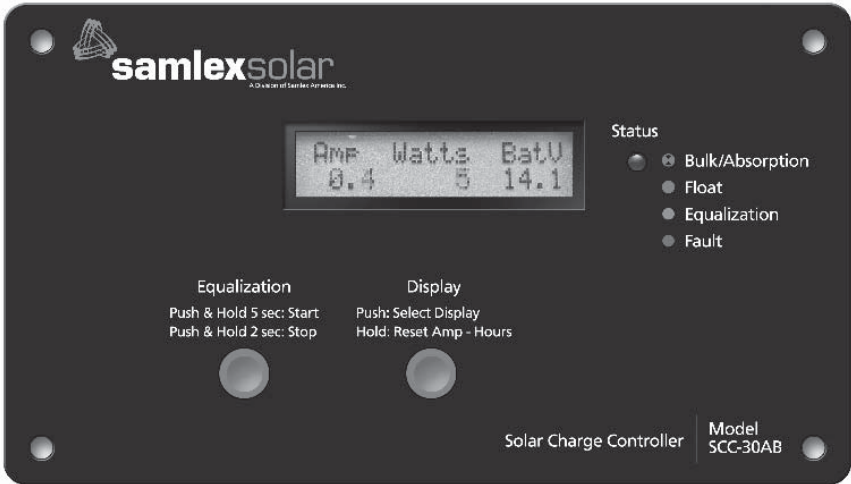
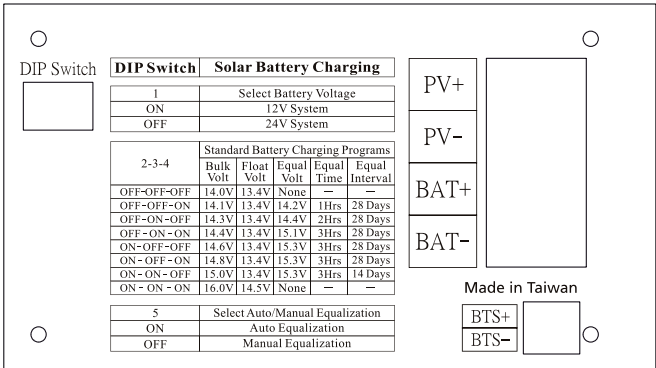

Fig. 5.1 Front Panel of SCC-30AB
Fig. 5.2. Back view of SCC-30AB
SCC-30AB is designed for flush mounting on a wall / panel. The controls and indications are built on the Front Panel face plate that has 4 countersunk holes for flush mounting (Fig. 5.1). All the electronics, DIP switches for settings, terminal strip for connections for the PV Array and the Battery and terminal for the optional Battery Temperature Sensor (BTS) are mounted on a PCB that is in turn mounted at the back of the face plate (Fig. 5.2). For flush mounting on the wall / panel, a suitable cutout is required to be made in the wall / panel to accommodate the PCB at the back of the unit. As the components at the back of the unit will be hidden and protected behind the wall / panel, the components at the back of the unit are exposed and do not have a protective cover. **PLEASE HANDLE THE UNIT CAREFULLY TO PREVENT ANY DAMAGE TO THE EXPOSED COMPONENTS AT THE BACK OF THE UNIT.**
The back of the unit (Fig 5.2) has the following input / output connections and DIP Switches for various settings.
3. The connections to the SCC-30AB terminals are shown in the drawing at Fig. 5.2. A barrier type of Terminal Strip has been provided for connecting the PV array and the battery. M-4 screws with clamping washers are used to make the connection. A flat or a #2 Philips head screw driver may be used to tighten these screws. Tighten each terminal clamping screw to 20 inch-pounds of torque. The distance between the barriers is 9 mm and a standard Spade Type of terminal lug meant for # 8 Stud and AWG #10 – AWG #12 wire may be used at the end of the wires to be connected to these terminals. 4 such terminal lugs are provided with the unit for ease of installation